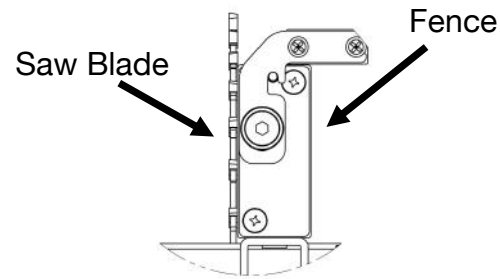

FIG. 47
STEP 4: Slide the fence towards the saw blade and contact the saw blade as shown in **FIG. 47**.